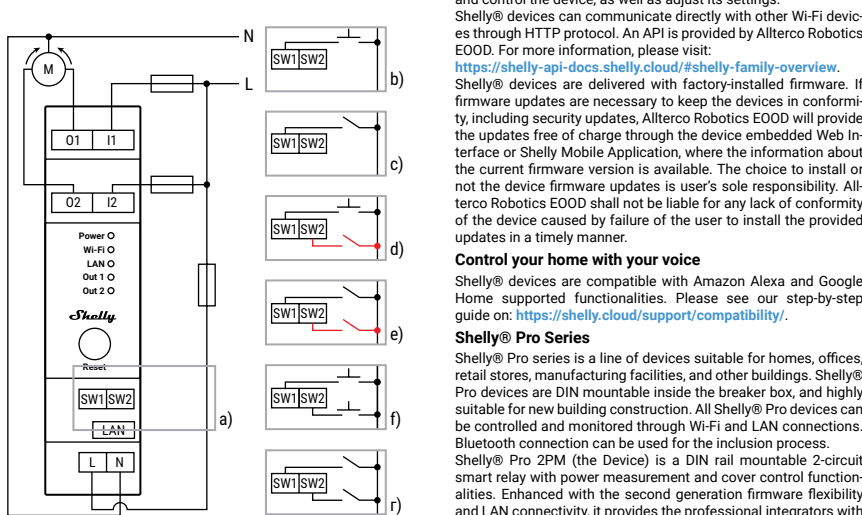

Fig. 2
As a cover controller Shelly® Pro2PM can work in 3 modes: Detached, single input or Dual input. In detached mode, the Device can be controlled through its Web Interface and the App only. Even if buttons or switches are connected to the Device, they will not be allowed to control the motor rotation in detached mode, but they can be used for URL actions. If you want to use the Device in detached mode connect the device as shown on Fig. 2 a). Connect the N terminal to the Neutral cable and the L terminal to the Device power supply circuit breaker. Connect the common motor terminal/cable to the Neutral cable. Connect motor direction terminals/cables to the 01 and 02 terminals*. Connect the I1 terminal to one of circuit breakers and the I2 terminal to the other circuit breaker.
If you want to use the Device in single input mode connect the device as shown on Fig. 2 b) for a button input or Fig. 2 c) for a switch input. Connect the N terminal to the Neutral cable and the L terminal to the Device power supply circuit breaker. Connect the common motor terminal/cable to the Neutral cable. Connect motor direction terminals/cables to the 01 and 02 terminals*. Connect the I1 terminal to one of circuit breakers and the I2 terminal to the other circuit breaker.
In single input mode Shelly® Pro 2PM provides safety switch functionality. To utilize it, connect the device as shown on Fig. 2 d) for a button input or Fig. 2 e) for a switch input. Connect the N terminal to the Neutral cable and the L terminal to the Device power supply circuit breaker. Connect the common motor terminal/cable to the Neutral cable. Connect motor direction terminals/cables to the 01 and 02 terminals*. Connect the I1 terminal to one of circuit breakers and the I2 terminal to the other circuit breaker.
- Stop and immediately reverse the movement until the end position is reached. This option requires reverse movement to be allowed in the Device settings. The safety switch can also be configured to stop the movement in only one of the directions or in both. If you want to use the Device in dual input mode, connect the device as shown on Fig. 2 f) for a button inputs or Fig. 2 g) for a switch inputs. Connect the N terminal to the Neutral cable and the L terminal to the Device power supply circuit breaker. Connect the common motor terminal/cable to the 01 and 02 terminals*. Connect the I1 terminal to one of the circuit breakers and the I2 terminal to the other circuit breaker.